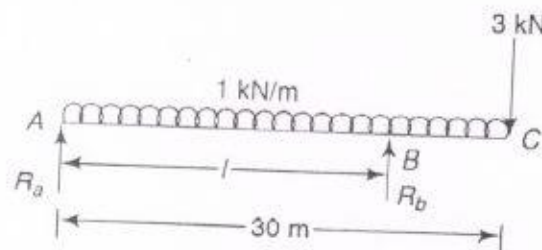

Fig. 5
- Q.4. B **Draw** SF and BM diagram for the beam shown in Fig. 5 and **identify** the point of maximum bending moment.